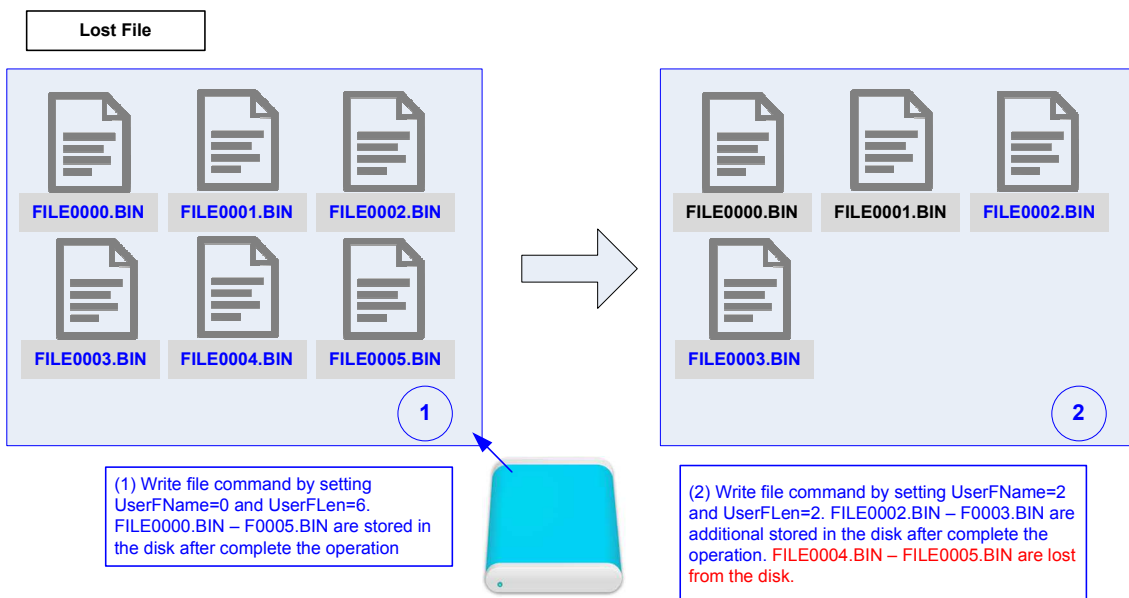

Figure 9: Write file command but UserFName is less than normal value
- b) When UserFName is less than the next value of the latest file, the file after the 1st new file is corrupt, as shown in Figure 9.